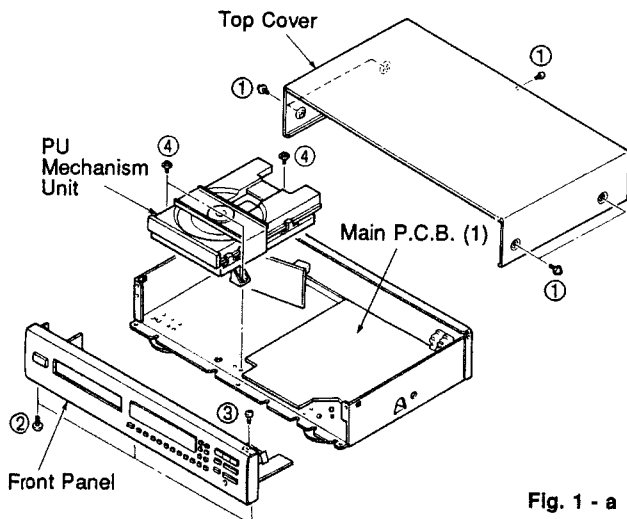

Fig. 1 - a
- a. Remove connector #13 from the Main P.C.B. (4) (POWER SW).
- b. Remove connectors #1, #2 and #7 from the Main P.C.B. (1).
- c. Remove 3 screws (②) and 1 screw (③) in Fig. 1-a.
- a. Remove connectors #8, #9, #10 and #11 from Main P.C.B. (1).
- b. Remove 3 screws (④) in Fig. 1-a.
- a. Remove 7 screws (①) in Fig. 1-b.